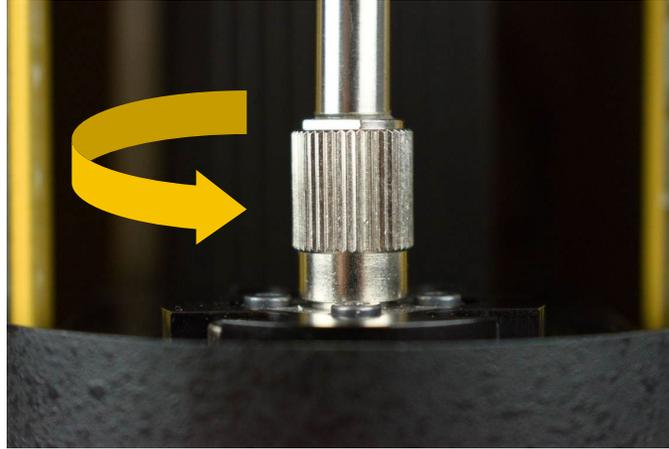
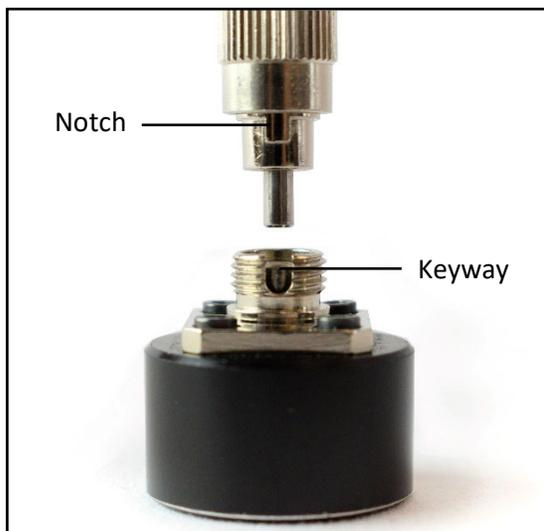

Figure 17. Disconnect Delivery Fiber from Translation Stage.
Figure 18. Connect Delivery Fiber to Transmission Tool.
3. Follow the prompt to remove the Delivery Fiber from the Translation Stage by turning the FC connector end of the Delivery Fiber counter-clockwise (see Figure 17). Attach the FC end of the Delivery Fiber to the Transmission Tool and place both connected devices on top of the SoloVPE Detector Window. Be sure to align the notch on the Delivery Fiber to the keyway on the Transmission Tool (refer to Figures 18 and 19).